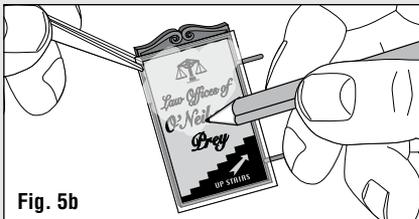

Fig. 5b
- Position in desired location and rub over entire Decal area with burnisher or dull pencil (Fig. 5b).
- Apply Decals to Signs (8), (17), (18).